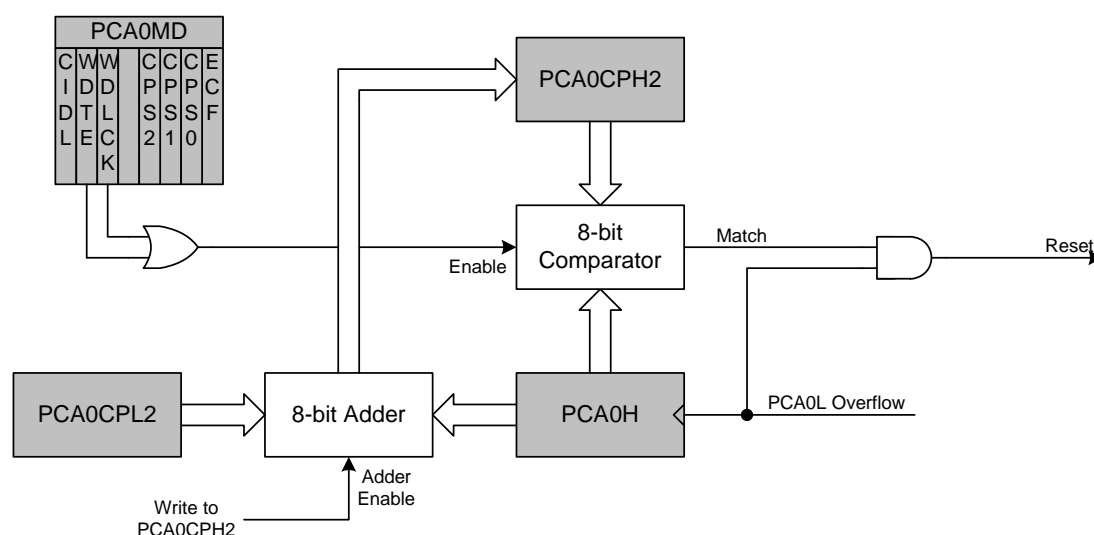

Figure 26.11. PCA Module 2 with Watchdog Timer Enabled
While the WDT is enabled, writes to the CR bit will not change the PCA counter state; the counter will run until the WDT is disabled. The PCA counter run control bit (CR) will read zero if the WDT is enabled but user software has not enabled the PCA counter. If a match occurs between PCA0CPH2 and PCA0H while the WDT is enabled, a reset will be generated. To prevent a WDT reset, the WDT may be updated with a write of any value to PCA0CPH2. Upon a PCA0CPH2 write, PCA0H plus the offset held in PCA0CPL2 is loaded into PCA0CPH2 (See Figure 26.11).